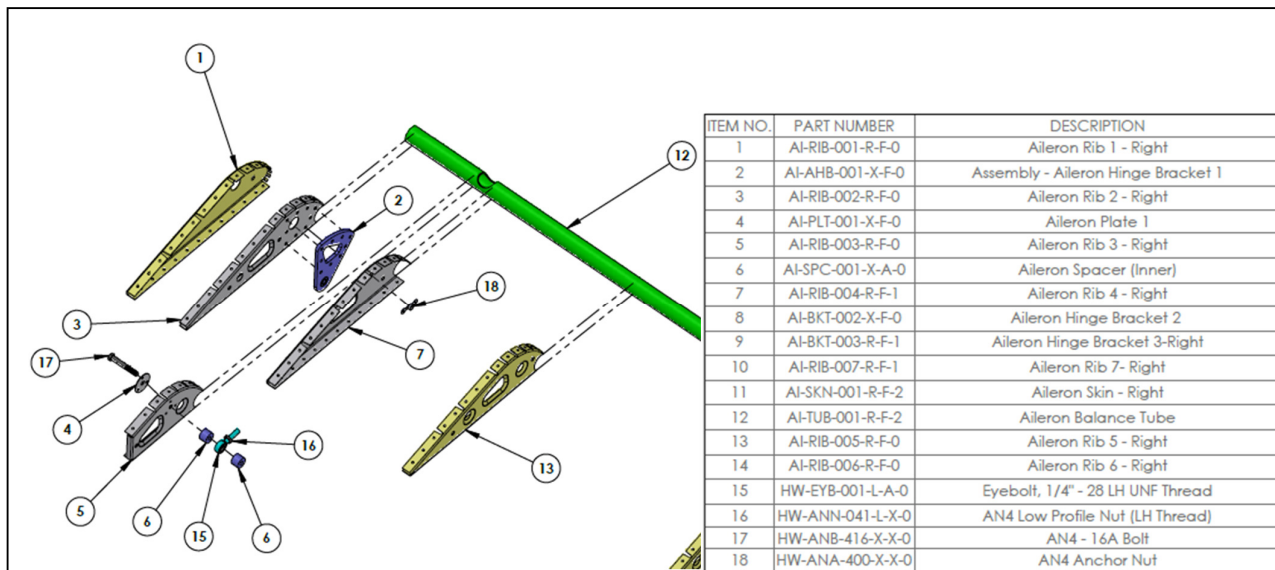

Figure 15
Step 12. After the bolt has been removed, the eyebolt can be replaced with either a *type 1* or *type 2* eyebolt. It should then be reconnected to the aileron and pushrod, as shown in Figure 15.